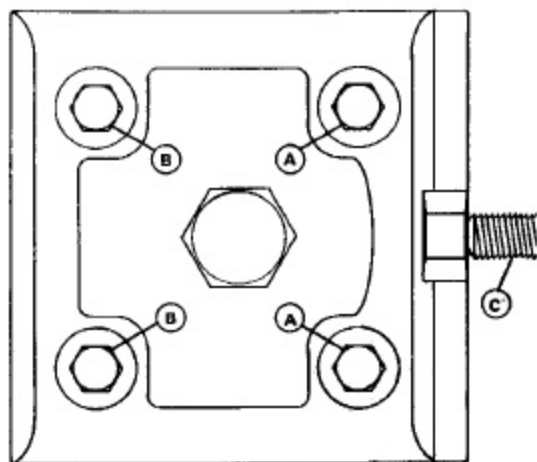

Figure 4
Lower the cover on left end of frame to gain access to idle wheel. Wheel is mounted on a slide block which contains the blade height adjustment screws. To raise the blade, loosen the two screws toward center of machine (A, Figure 4) one-half turn and tighten the other two screws (B) one-half turn. Be sure tension screw (C) is properly tightened. Reverse procedure to lower blade. Care must be taken not to overadjust. Check by running machine after each adjustment.